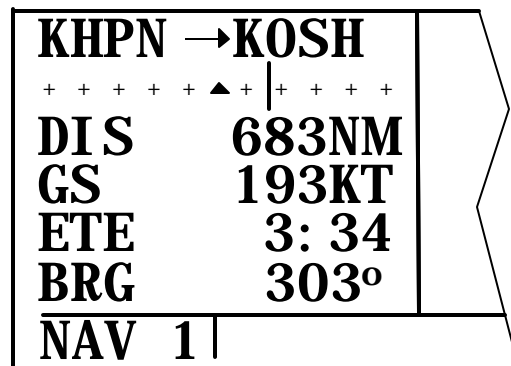

Figure 3D-10. NAV 1 Page (Flight Plan Operation)
a. NAV 1 Page. The NAV 1 page, Figure 3D-10, displays the following information.